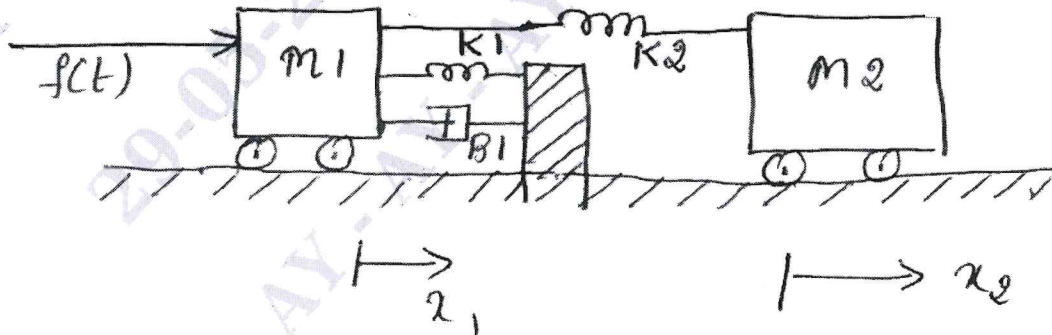

Fig. Q. 2 (b)
- b. Draw the mechanical network for the mechanical system shown in fig. Q. 2 (b). Draw the analogous electric circuit in which force is analogous to current.